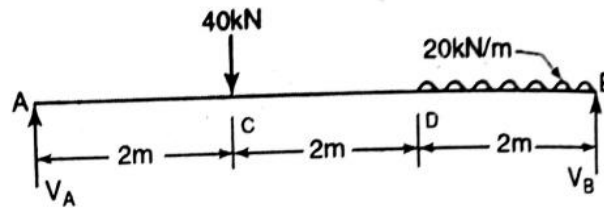

Fig.Q.3c.
- c) Draw the shear force and bending moment diagram for the beam shown in Fig.Q.3c. 08